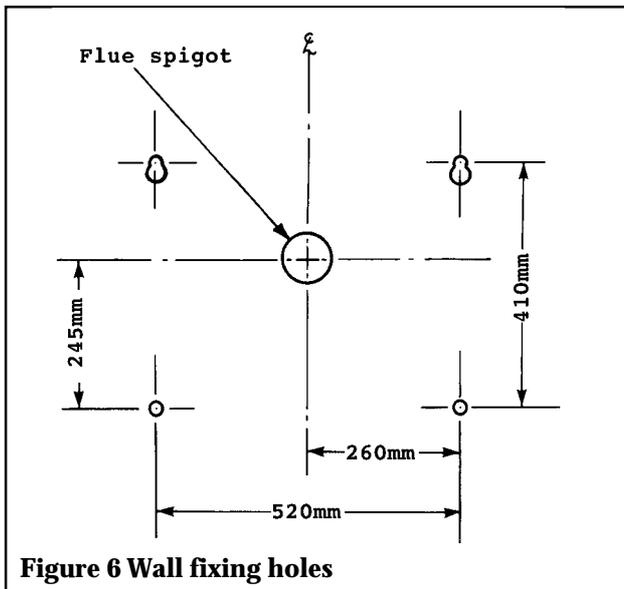

Figure 6 Wall fixing holes
4.2.2 Mark the position of the upper fixing holes (in the back panel) on the wall (see Fig.6).